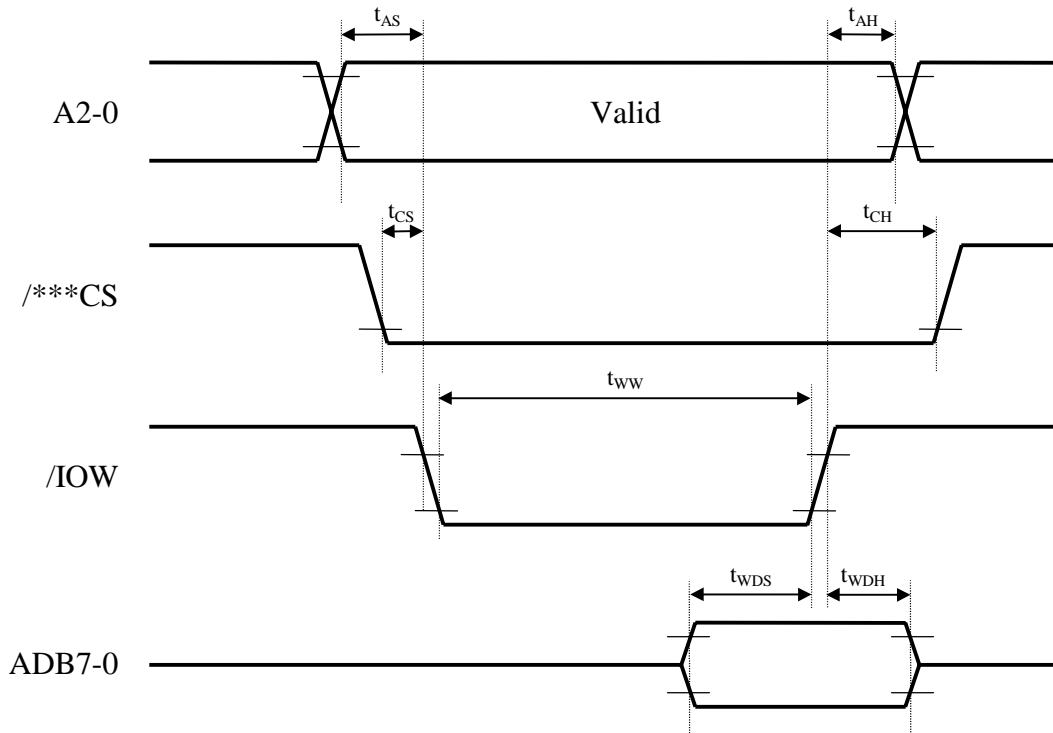

Fig.1
1. CPU interface (Refer to Fig. 1, 2, 3)